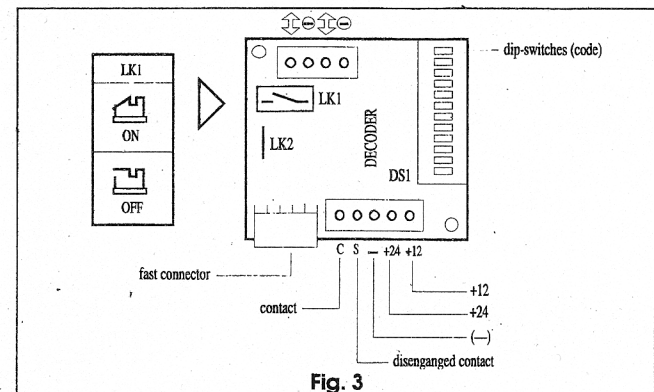

Fig. 3
- set Decoder dip-link LK1 to OFF (Fig. 3).
- 1) If the pilot lamp does not flash, make sure that the Decoder LK1 dip-link (Fig. 3) is set to ON.
The Decoder is a PCB dedicated to decoding operations (see figure 3).
The code relayed from the Digicard is decoded and compared to the code set on the micro-switches. Recognition of the code causes a change in the state of the electrical contact. A quick fit connector is provided for easy connection with field equipment. Digicard also features a conventional terminal board (Fig. 3) for use when the connector is unsuitable.
Cut the jumper LK2 (Fig. 3) to obtain a free contact (NA) on terminals C and S (maximum capacity 0,3 A at 100 Vdc).